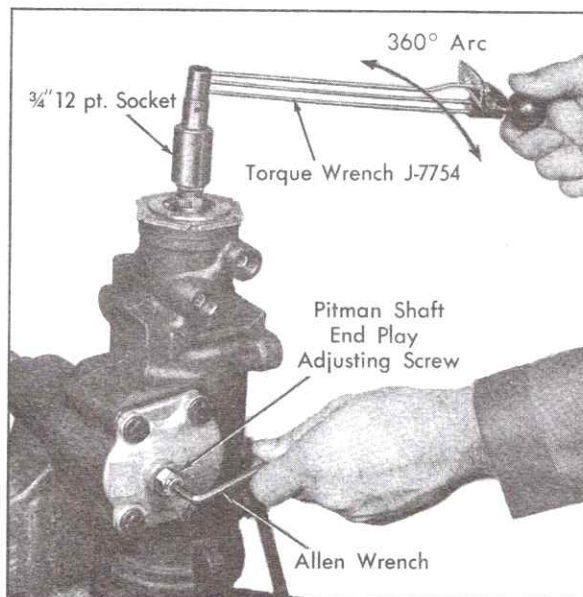

Fig. 9-38 Adjusting Pitman Shaft End Play
b. With gear on center, check combined ball and thrust bearing preload with Torque Wrench, J-7754, with a 3/4 inch 12-point socket, and note highest reading, Fig. 9-38.